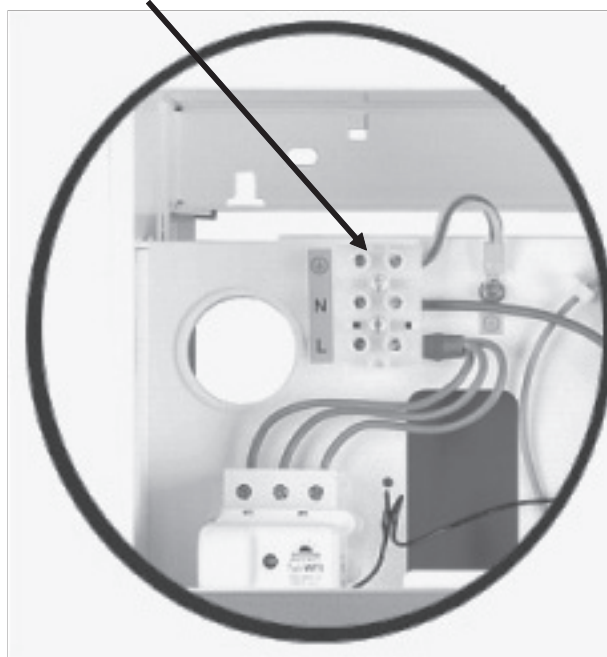

Figure 6
3. Fill the heating system with treated water, which will substantially extend the life of the heating coils. See item 14 „System Protection” below.
4. Connect the boiler to the „mains” electrical system as per Figures 6, 8, 9 & 11 using conductors sizes as per as specified in the Technical Specification on page 17 of this document.